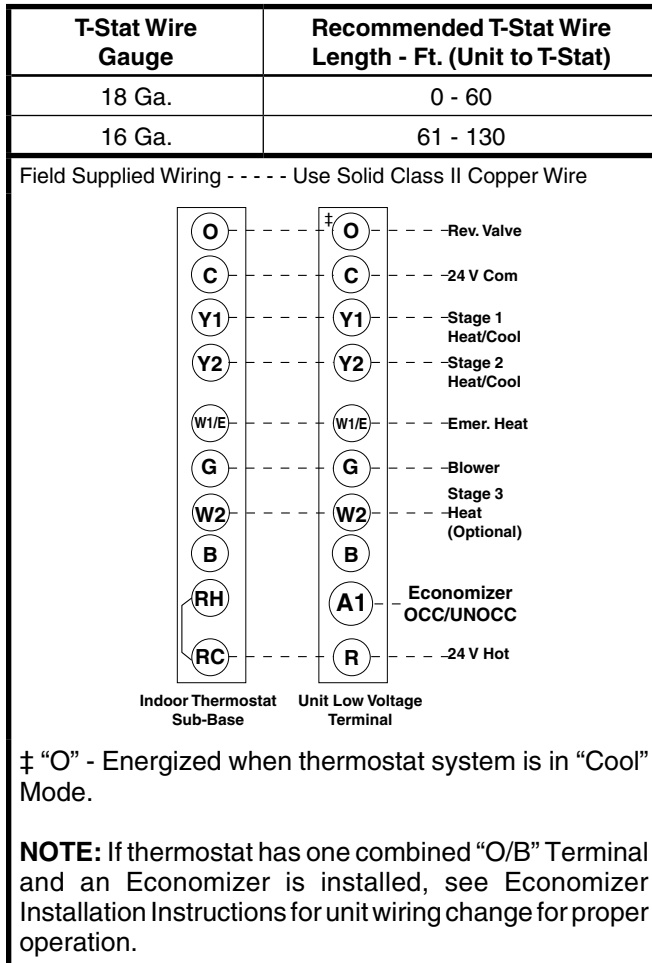

Figure 8. Typical Connections - 2 Stage Cool/3 Stage Heat T-Stat
2. Cut out the cable opening and route the thermostat cable from the unit's low voltage compartment to the thermostat location. The thermostat cable is supplied by the installer. For recommended wire sizes, see Figure 8 \(page 9\).
3. Connect the cable leads to the subbase or thermostat terminals and to the unit's low voltage terminal block as shown in Figure 8. System wiring diagrams are also provided on the inside of the control access panel and in Figure 11 \(page 19\) & Figure 12 \(page 20\).